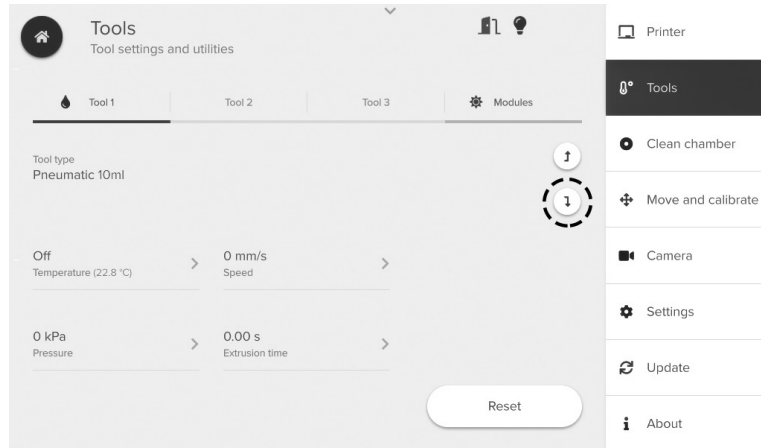

Figure 3: Lowering the printhead into the active position.
2. Lower the desired printhead mount into the active or loading position by pressing the down arrow (Figure 3).